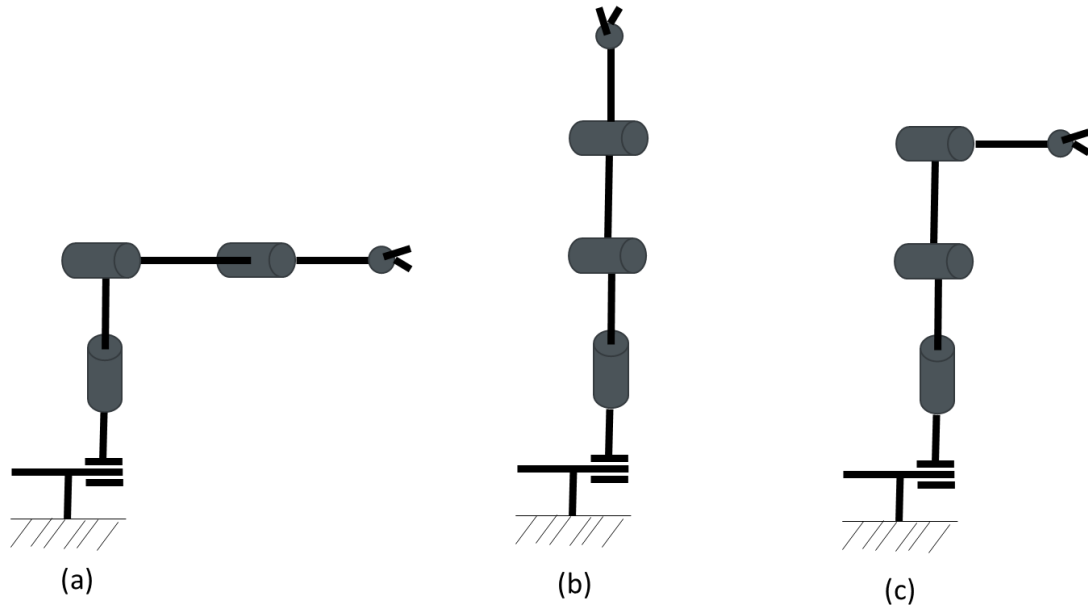

Fig. 3: Simple robot in different positions
2. In fig. 3 (b), the 2nd rotary drive of the kinematic chain accelerates the robot parts above it with the torque calculated in (a). What (horizontal) force does the linear actuator have to apply to maintain its position?